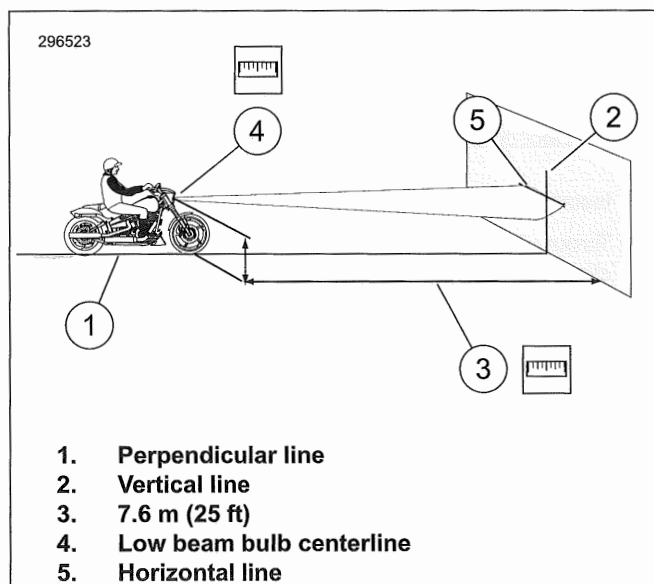

Figure 7-52. LED Headlamp Alignment
1. See Figure 7-52. Park the motorcycle on a line (1) perpendicular to the wall.